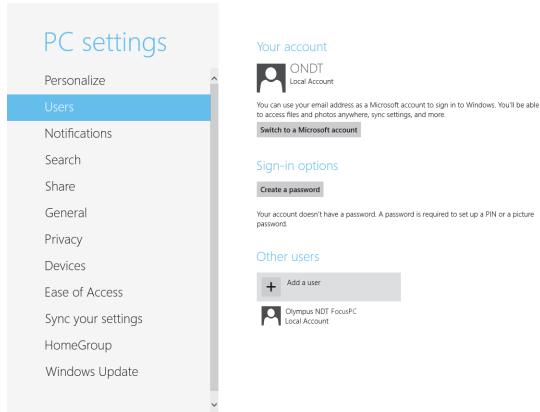

Figure 3-8 Adding a user in PC settings
4. In PC settings, click **Add a user** (see Figure 3-8 on page 56).